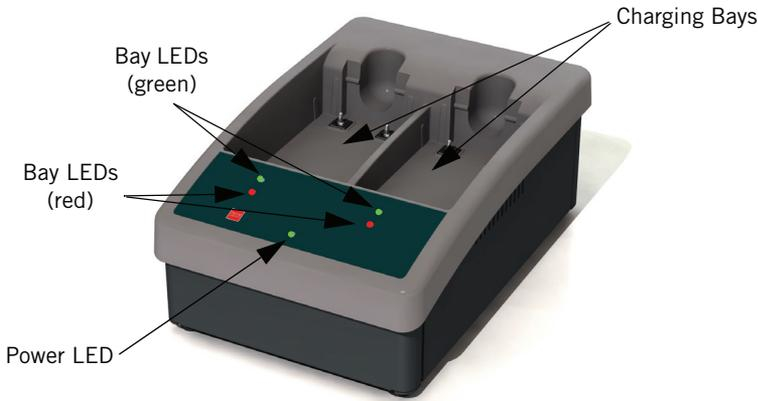

Figure 1 LIFEPAK 15 Li-ion Battery Charger
The following procedures refer to Figures 1 and 2 in the *Mounting Bracket Template* (Template) that ships with the bracket.
- A. Align the bracket with the bottom of the charger as shown in Figure 1 in the Template.